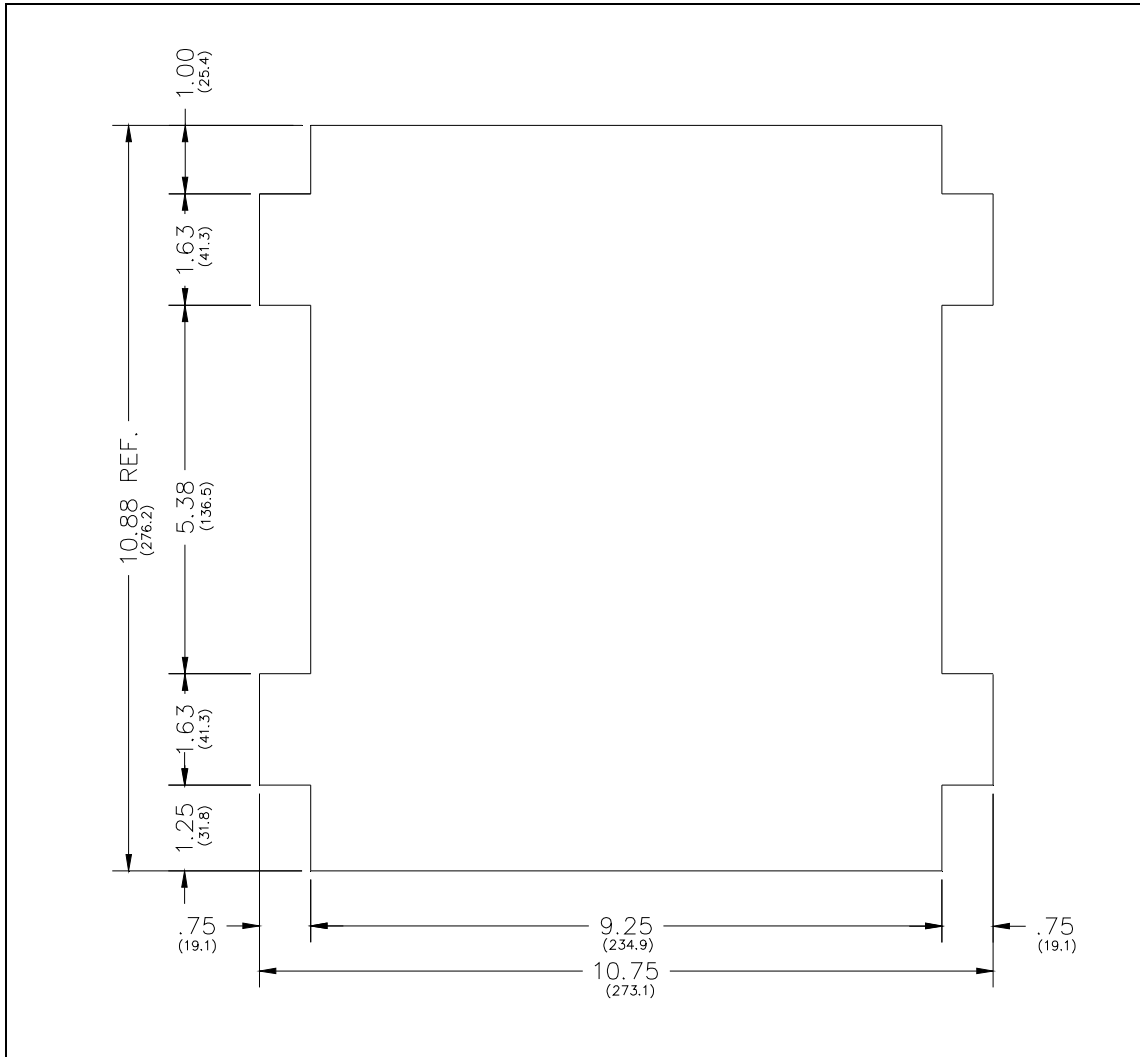

Figure 5. Wall Cut-out Dimensions for Model 112-02-0418-00W
2. Refer to Figure 5 on page 10 for cut-out details. Use the cut-out dimensions as a guide to mark the wall, and make the required cuts.